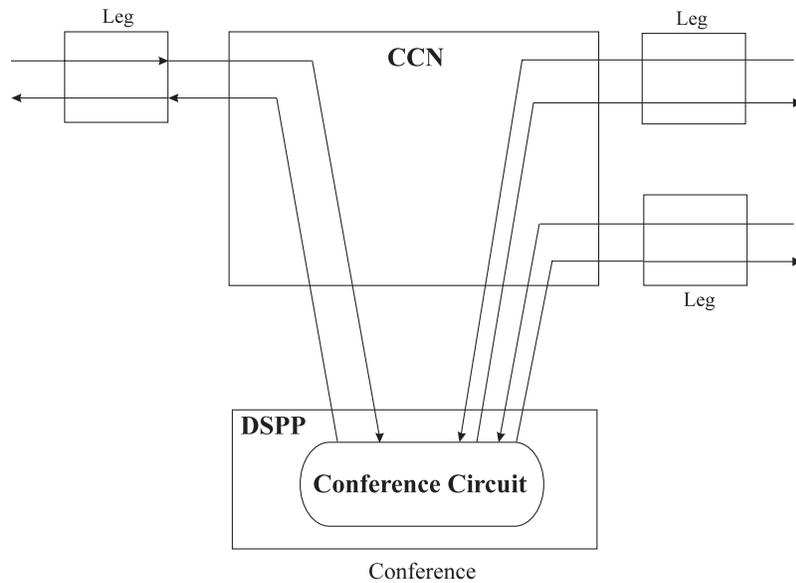

Figure 1-1. Connection Established Between NPC and DSP Platform
3. The third step is to **establish** the cross-connections between the appropriate facility terminating NPCs and the DSP circuit pack. Establishing these cross-connections is performed by using the application command **TCON/TCNT**. This connection is illustrated in Figure 1-1.